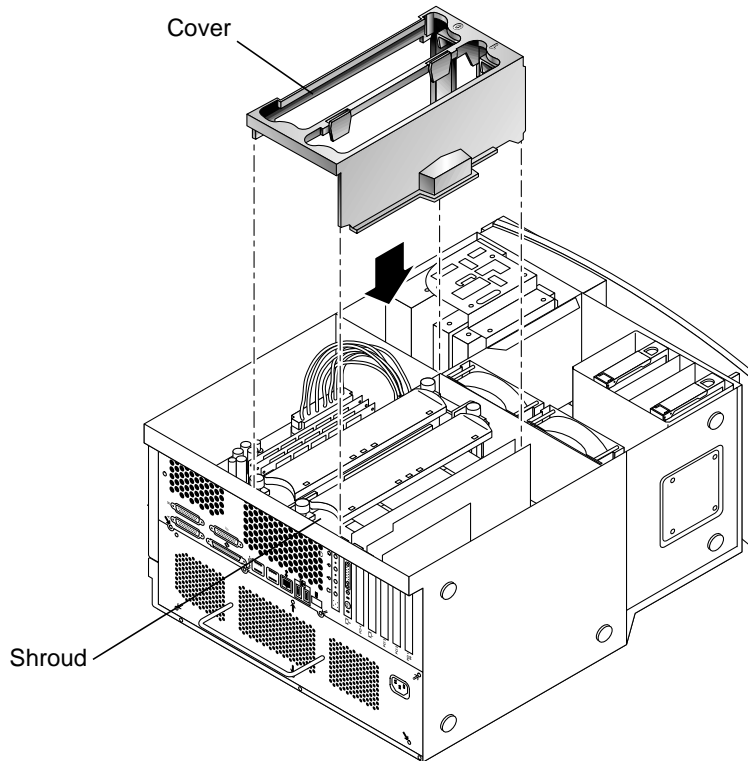

FIGURE 8-12 Installing the Cover for the Shroud
- 9. If necessary install the cover for the shroud (see FIGURE 8-12)**